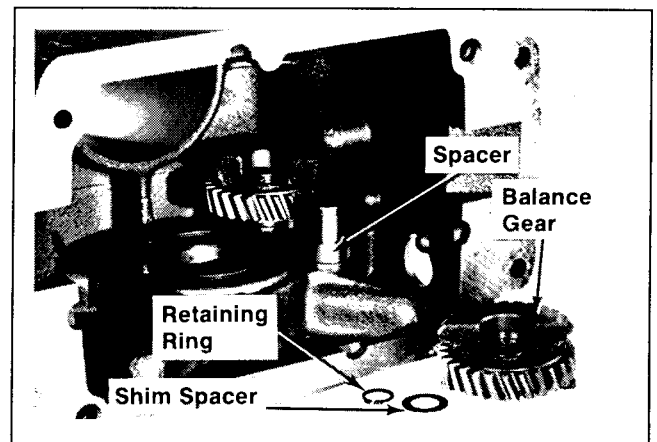

Figure 12-9. Installing Balance Gears.
1. Install the  $3/8''$  spacer, one  $.010''$  shim spacer, balance gear, one  $.020''$  shim spacer, and retaining ring (rounded edge towards balance gear). Refer to Figure 12-9. A new style needle bearing is now being used on the K-Series balance gear assembly.
3. Position the crankshaft so it is about 15° past BDC. Install 3/8" spacer, and one .010" shim spacer. Align the secondary timing mark on the lower balance gear with the secondary timing mark on the crankshaft. Install the lower balance gear on the stub shaft. If properly timed, the primary timing mark on the crankshaft will now be aligned with the secondary timing mark on the lower balance gear. Refer to Figures 12-9 and 12-17.
4. Install one (1) .020" shim spacer and retaining ring (rounded edge towards gear). Check end
play of lower balance gear as instructed under "INSTALL BALANCE GEARS." Refer to Figures 12-9 and 12-10.